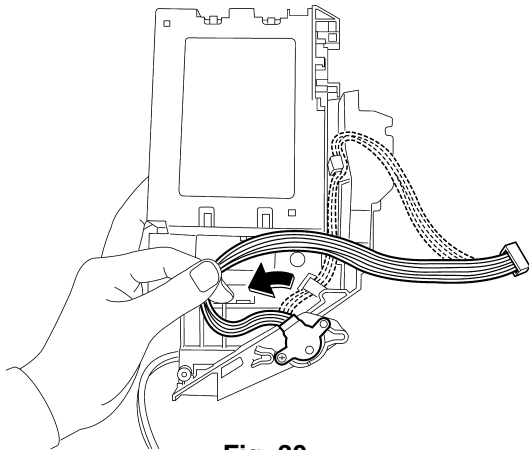
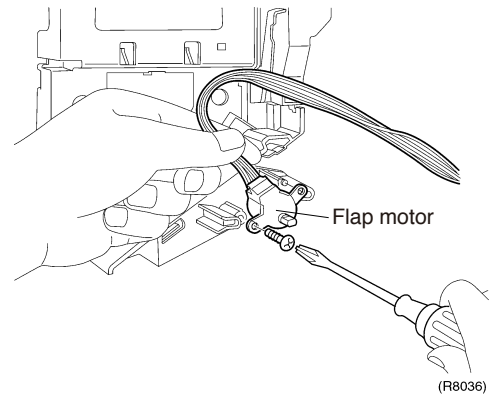

Fig. 30
Fig. 31
- (7) Remove flap motor. (Fig.30 and Fig31)